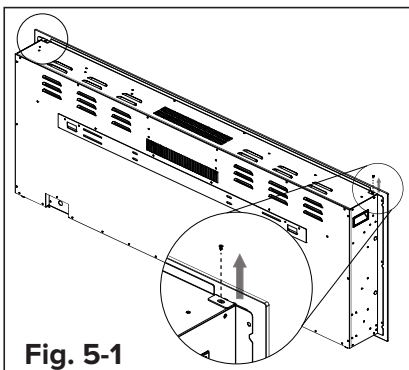

Fig. 5-1
**STEP A.** With one hand on the front glass to prevent it from falling, remove the two screws (1 per side) from the top of the appliance (Fig. 5-1). Set the screws aside.